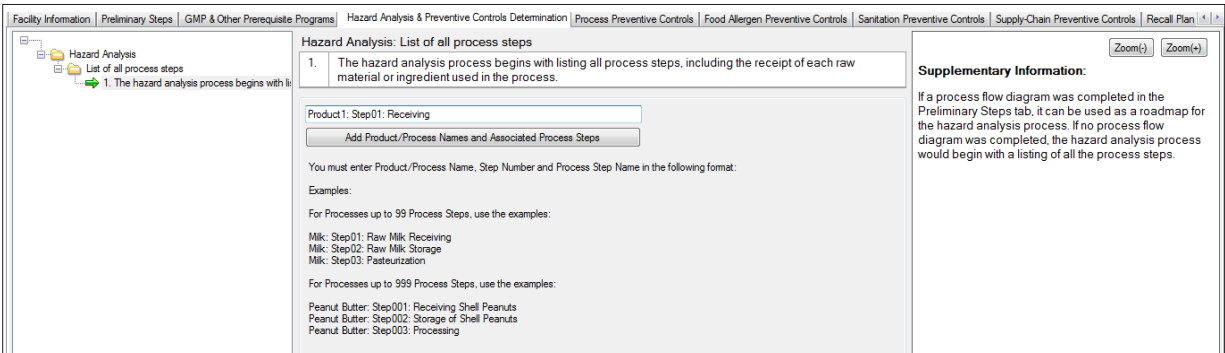

Figure 40: Add Product/Process Name and Associated Process Steps
Step 1: Select “Yes” or “No”, as appropriate, for all hazard categories (Biological, Chemical, Physical) (Figure 40). Each of the three types of hazards must be answered with a ‘Yes’ or ‘No’, or a warning notice will appear stating that you failed to do so, and you will be taken back to enter in the missing information.